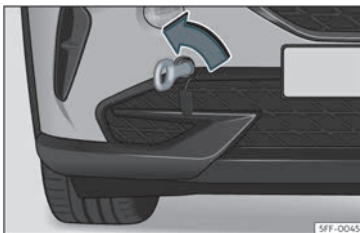

Fig. 44 Right side of the front bumper: towline anchorage in position.
- Screw the towing eye in the housing by turning it as far as it will go **anticlockwise**»» **Fig. 44** »» ⓘ. Use a suitable object that can completely and securely tighten the towing eye in its housing.